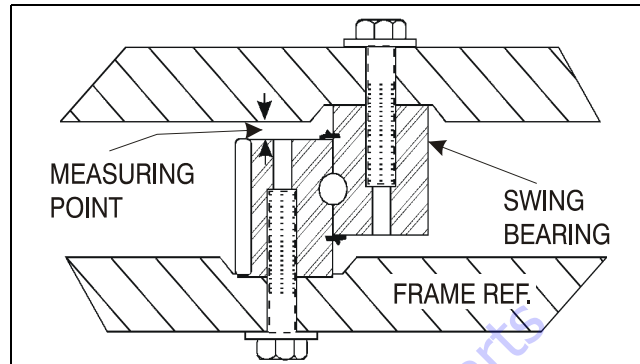

Figure 3-50. Swing Bearing Tolerance Measuring Point
1. From the underside of the machine, at rear center, with the main boom fully elevated and fully retracted, and tower boom stowed, as shown in Figure 3-47., Swing Bearing Tolerance Boom Placement (Sheet 1 of 2), using a magnetic base dial indicator, measure and record the distance between the swing bearing and turntable. See Figure 3-50., Swing Bearing Tolerance Measuring Point
2. At the same point, with the main boom at horizontal and fully extended, and the tower boom fully elevated and fully retracted as shown in Figure 3-48., Swing Bearing Tolerance Boom Placement (Sheet 2 of 2). Using a magnetic base dial indicator, measure and record the distance between the swing bearing and turntable. See Figure 3-50., Swing Bearing Tolerance Measuring Point